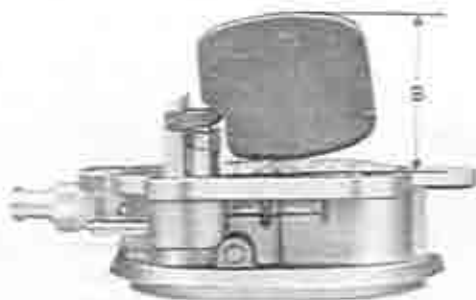

Fig. 4-9 Float level adjustment
Then adjust the fuel level by means of the washer at the fuel inlet, so that the distance (B) between the upper face of the float and the lower face of the air horn is 46 – 47 mm (1.8 – 1.9 in), as shown in Fig. 4-9. Under this condition, fuel level is kept at the center of the bowl cover.